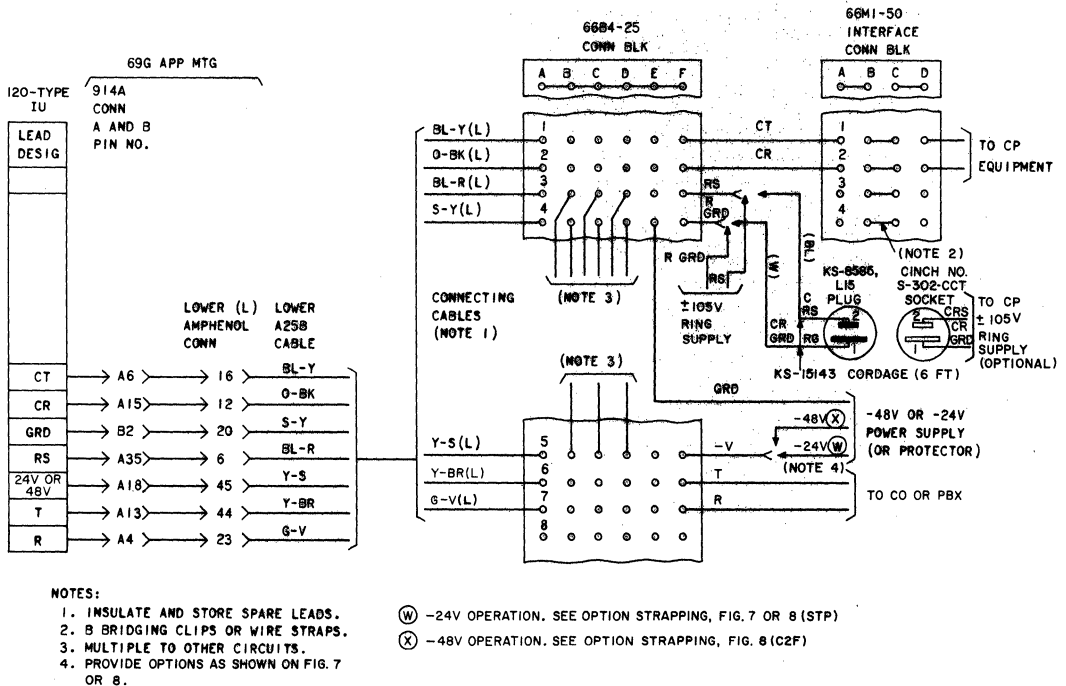

Fig. 2—Connection Diagram, 120-Type IU in 69G Apparatus Mounting
**3.01** The 69G apparatus mounting should only be used to add a circuit at installations where mountings are already in place. Refer to Fig. 2 for connections. For new installations, the 615A panel is recommended.
- (1) If supply voltage is -24V, add option W to 120A, B, or C IU (STP only).
- (2) If supply voltage is -48V, add option X to 120B or C IU (C2F only).
- (3) Connect supply voltage to 66B4-25 connecting block (Fig. 2).
**(b) 604B (MD) Panel**